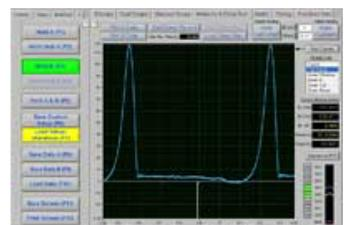

Fig. 4
Now we're getting somewhere. My next test compares cranking compression and the firing of number 1 spark plug. As you can see there is a problem here. There are a few points in this waveform that stick out like a sore thumb. Figure 4
1. Spark should occur at or before TDC and it most certainly doesn't. Figure 4